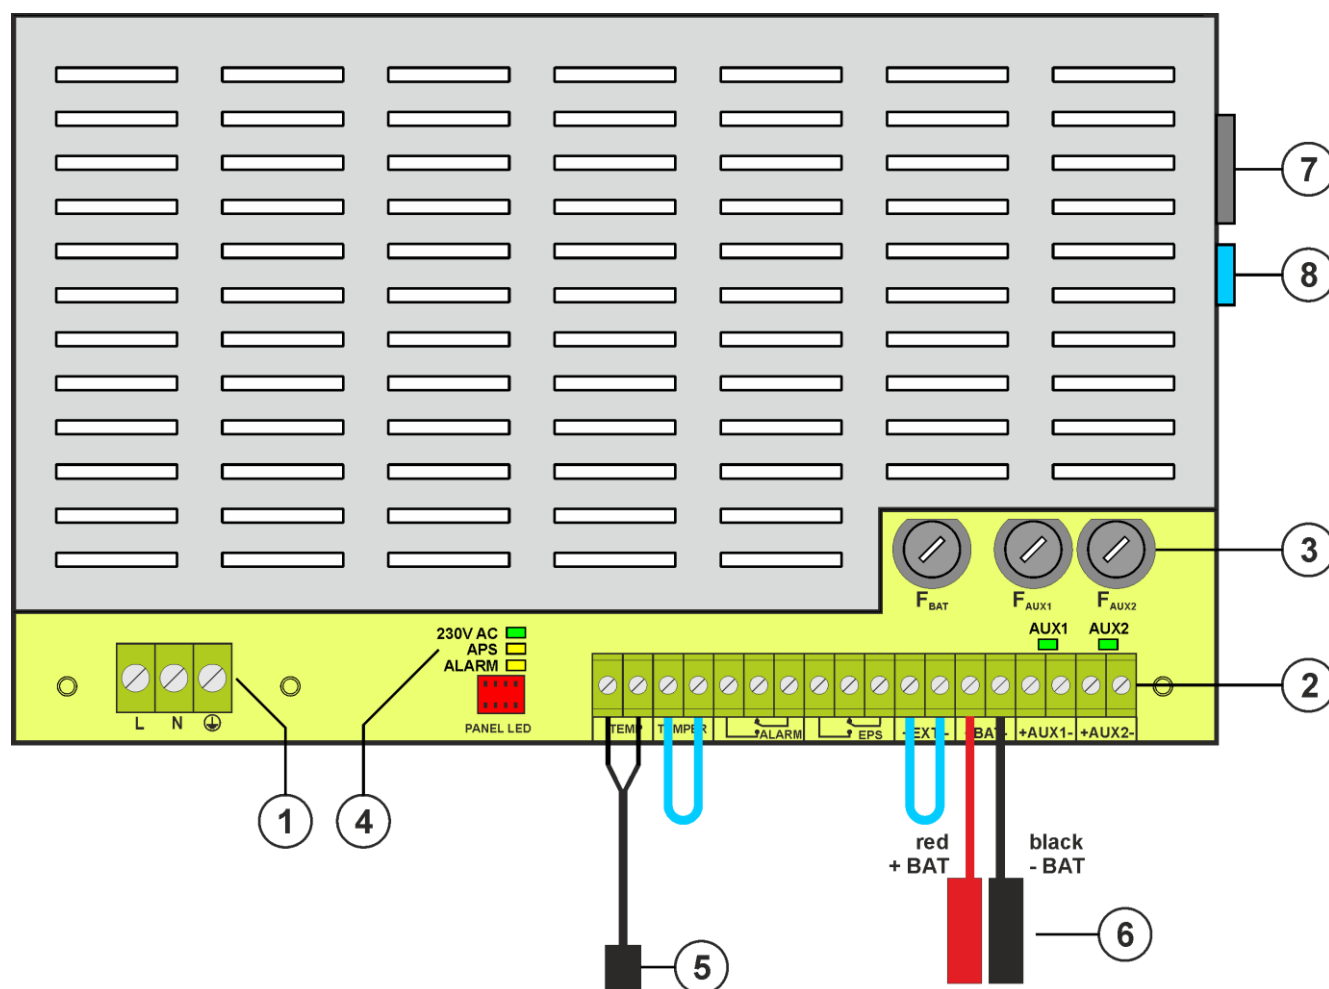

Fig. 2. View of power supply module based on EN54C-2A7LCD.
Table 1. Elements of PSU (Fig. 2).
①	230 V supply connector with a terminal for connection of a protective conductor
②	<p>Terminals:</p> <p>TEMP – input of the battery temperature sensor</p> <p>TAMPER – input of the microswitch tamper Closed input = no indication Open input = alarm</p> <p>ALARM – technical output of collective failure of the PSU - relay type</p> <p>EPS – technical output of AC power failure indication open = AC power failure closed = AC power - O.K.</p> <p>EXTi – external failure input closed input = no indication open input = alarm</p> <p>+BAT- – terminals for connecting the battery</p> <p>+AUX1- – AUX1 power output (- AUX=GND)</p> <p>+AUX2- – AUX2 power output (- AUX=GND)</p> <p>CAUTION! In Fig. 2 the set of contacts shows a potential-free status of the relay, which corresponds to power supply failure.</p>
③	Fuses: F_{BAT} – fuse in the battery circuit, F_{AUX1} – fuse in the AUX1 output circuit, F_{AUX2} – fuse in the AUX2 output circuit, The fuse values are given in table 12 – "Electrical parameters".
④	LEDs – optical indication: 230 V AC – voltage in 230 V AC circuit APS – battery failure ALARM – collective failure AUX1 – AUX1 output voltage (at the AUX1 connector) AUX2 – AUX2 output voltage (at the AUX2 connector)
⑤	Battery temperature sensor
⑥	Battery connectors; positive: +BAT = red, negative: - BAT = black
⑦	LCD connector
⑧	Communication interface connector
①	PSU (tab. 1, Fig. 2)
②	Battery temperature sensor
③	Battery connectors; positive: +BAT = red, negative: - BAT = black
④	Place to install fuse module: INTE-C, INTR-C, INTRE-C
⑤	A place for installation of additional modules
⑥	TAMPER; microswitch (contacts) of antisabotage protection (NC)
⑦	Fitting battery
⑧	Embossing for cable gland
⑨	Embossings for concealed wires
⑩	Lock